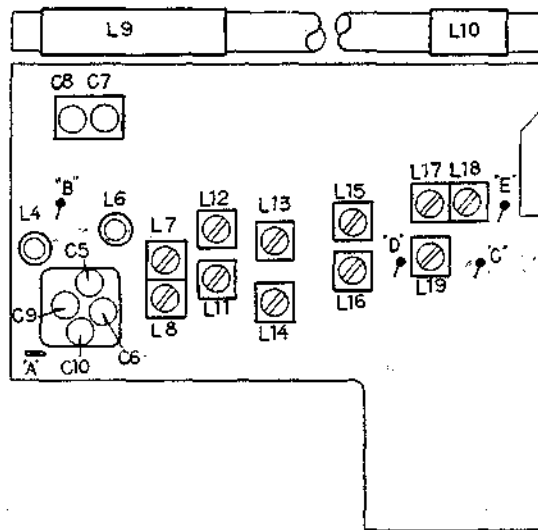

Fig. 8
4. Connect the clip of TV. sweep generator's IF/VF OUTPUT lead to the test point "B", and also the other clip to the earth (Refer to Fig. 8).
- a. Give the output from the test point "D" to V. INPUT of oscilloscope (Refer to Fig. 8).
- a. Give the output from the test point "E" to V. INPUT of oscilloscope (Refer to Fig. 8).
- b. Give the marker 10.7MHz of 50~60dB output modulated to 30~60% by AM from standard signal generator to the antenna terminal "A" (Refer to Fig. 8).